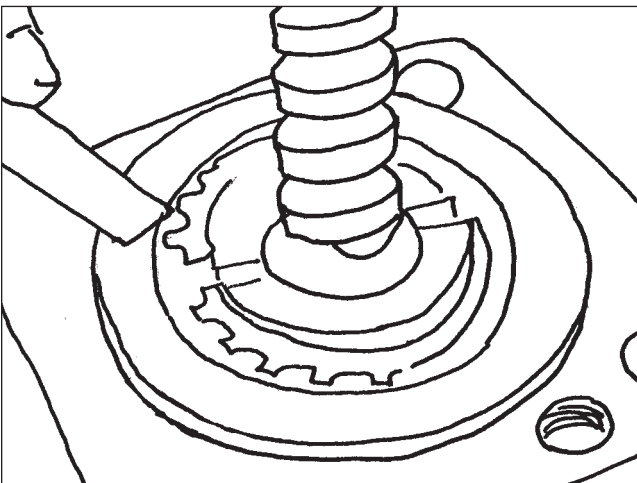

Figure 66
5. Loosen the shaft retaining nut using Tool #3563982 (Figure 66).